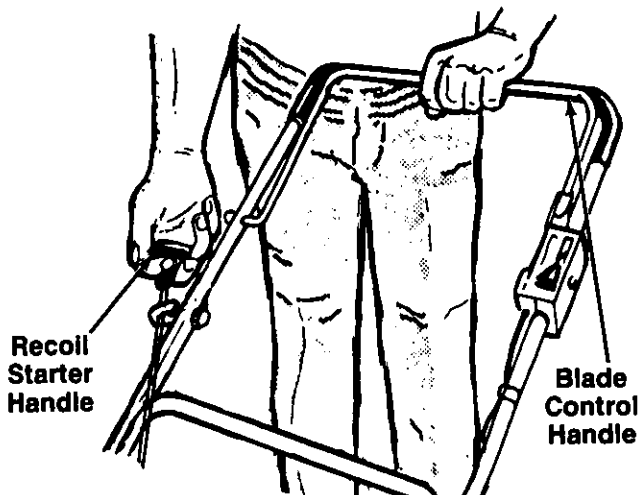

FIGURE 12.
4. Standing behind the unit, depress the blade control handle and hold it against the upper handle as shown. See figure 12.